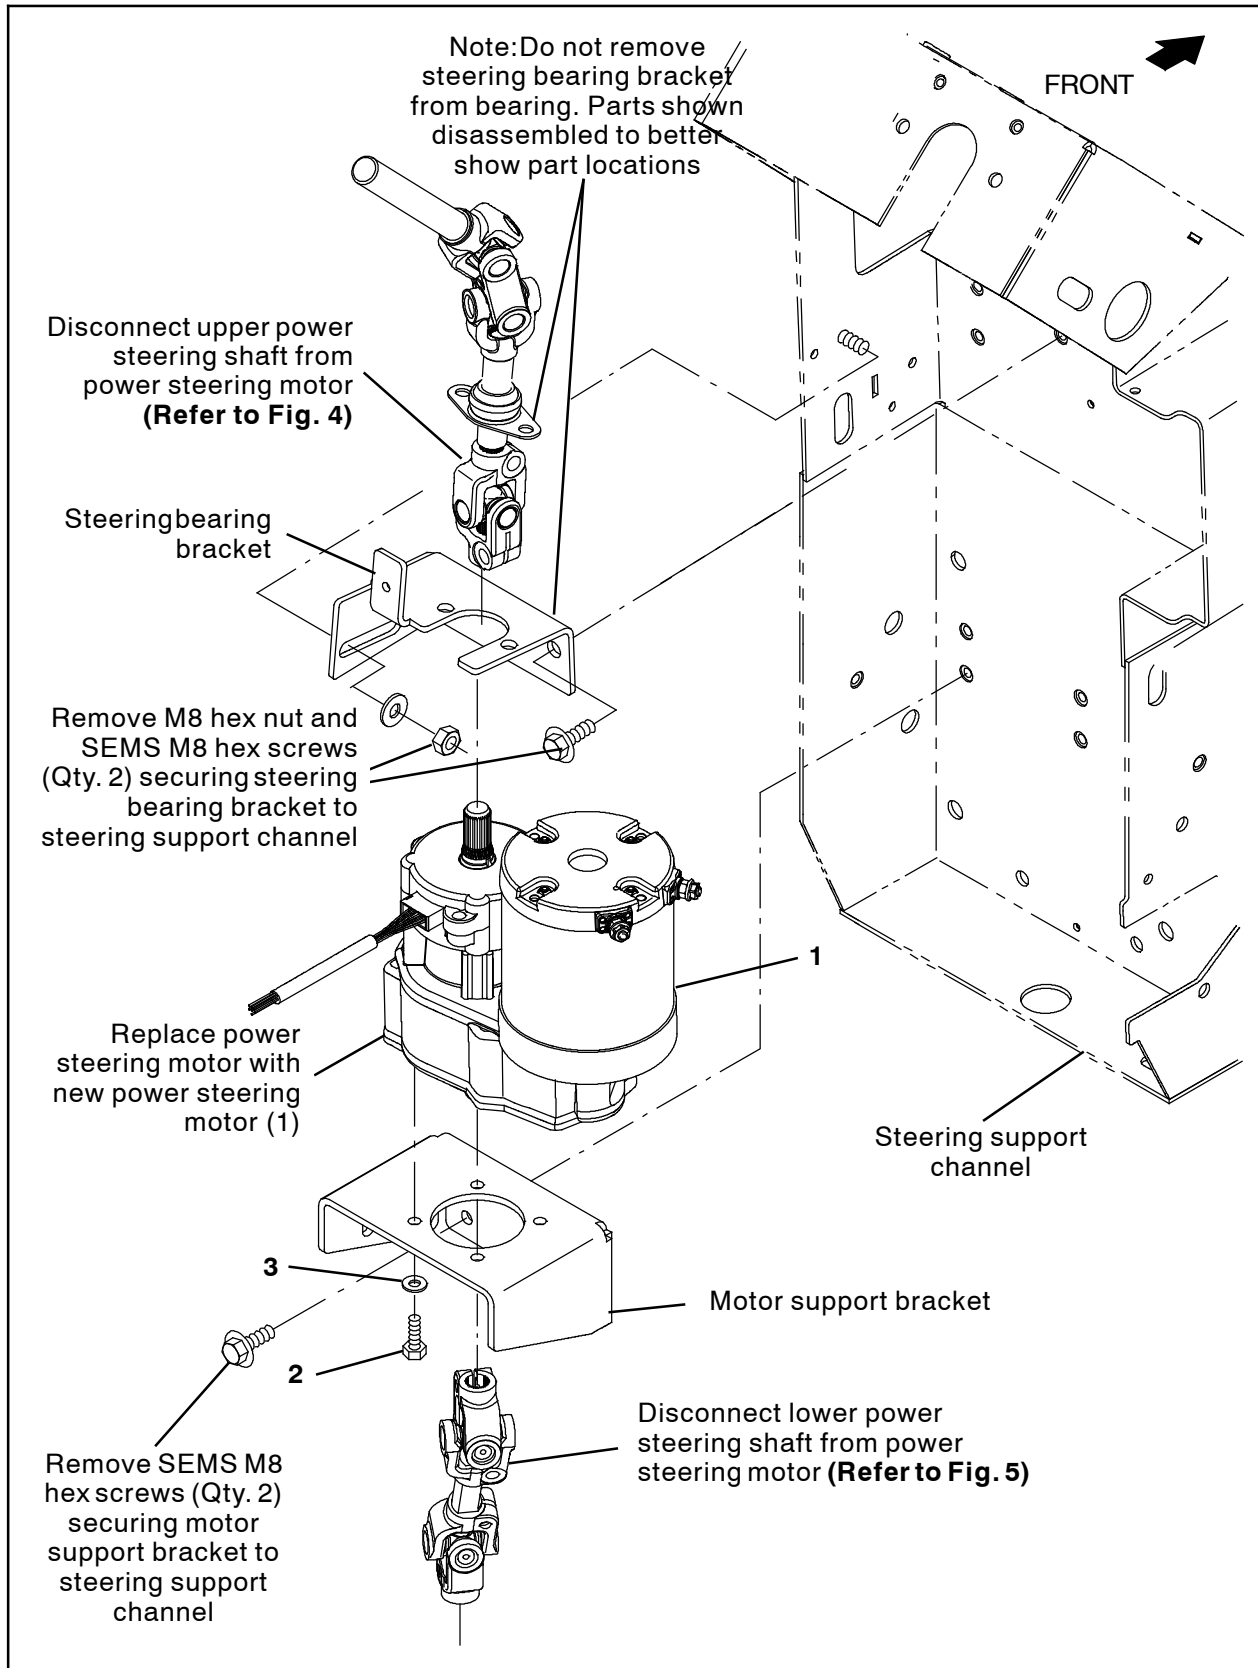
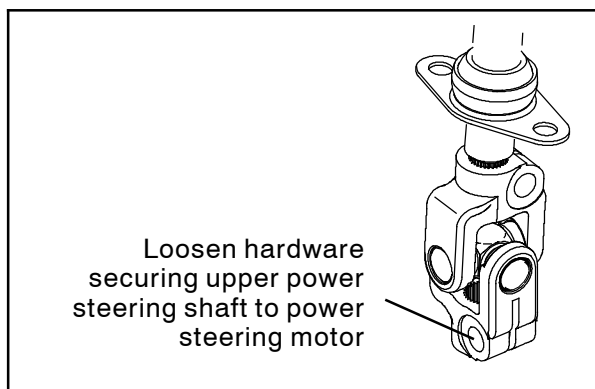
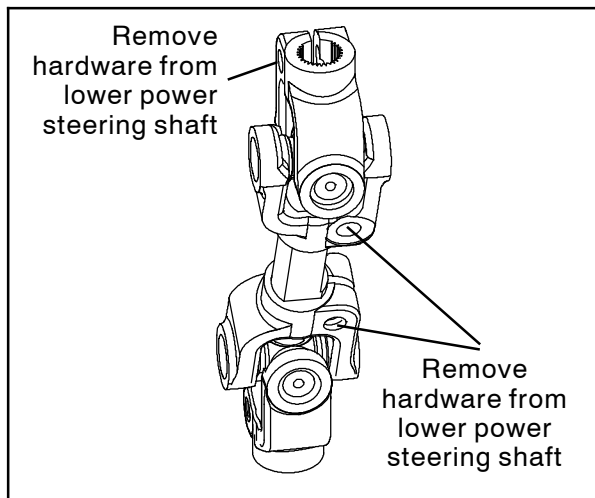

FIG. 3
FIG. 4
FIG. 5
1. Disconnect all power steering wire harness connections from the power steering motor. (Fig. 3 / Fig. 8)
2. Remove the SEMS M8 hex screws securing the motor support bracket to the steering support channel. Set removed hardware aside. (Fig. 3)
3. Remove the SEMS M8 hex screws and M8 hex nut securing the steering bearing bracket to the steering support channel. Set removed hardware aside. (Fig. 3)
4. Loosen hardware securing the upper power steering shaft to the power steering motor and disconnect the upper power steering shaft from the power steering motor. (Fig. 3 / Fig. 4)
5. Remove hardware securing lower power steering shaft to the power steering motor and disconnect the lower power steering shaft from the power steering motor. (Fig. 3 / Fig. 5)
6. Remove the power steering motor from the motor support bracket. Discard the power steering motor and the M6 hex screws (Qty. 4) and flat washers Qty. 4). (Fig. 3)
7. Connect the power steering wire harness to the power steering motor (1). (Fig. 3 / Fig. 8)
8. Use four M6 hex screws (2) and four flat washers (3) to install the new power steering motor (1) onto the motor support bracket. (Fig. 3)
9. Connect the upper power steering shaft to the power steering motor (1). (Fig. 3 / Fig. 4)
10. Connect the lower power steering shaft to the power steering motor (1). (Fig. 3 / Fig. 5)
11. Use the SEMS M8 hex screws to secure the motor support bracket to the steering support channel. (Fig. 3)
12. Use the SEMS M8 hex screws and M8 hex nut to reinstall the steering bearing bracket onto the steering support channel. (Fig. 3)